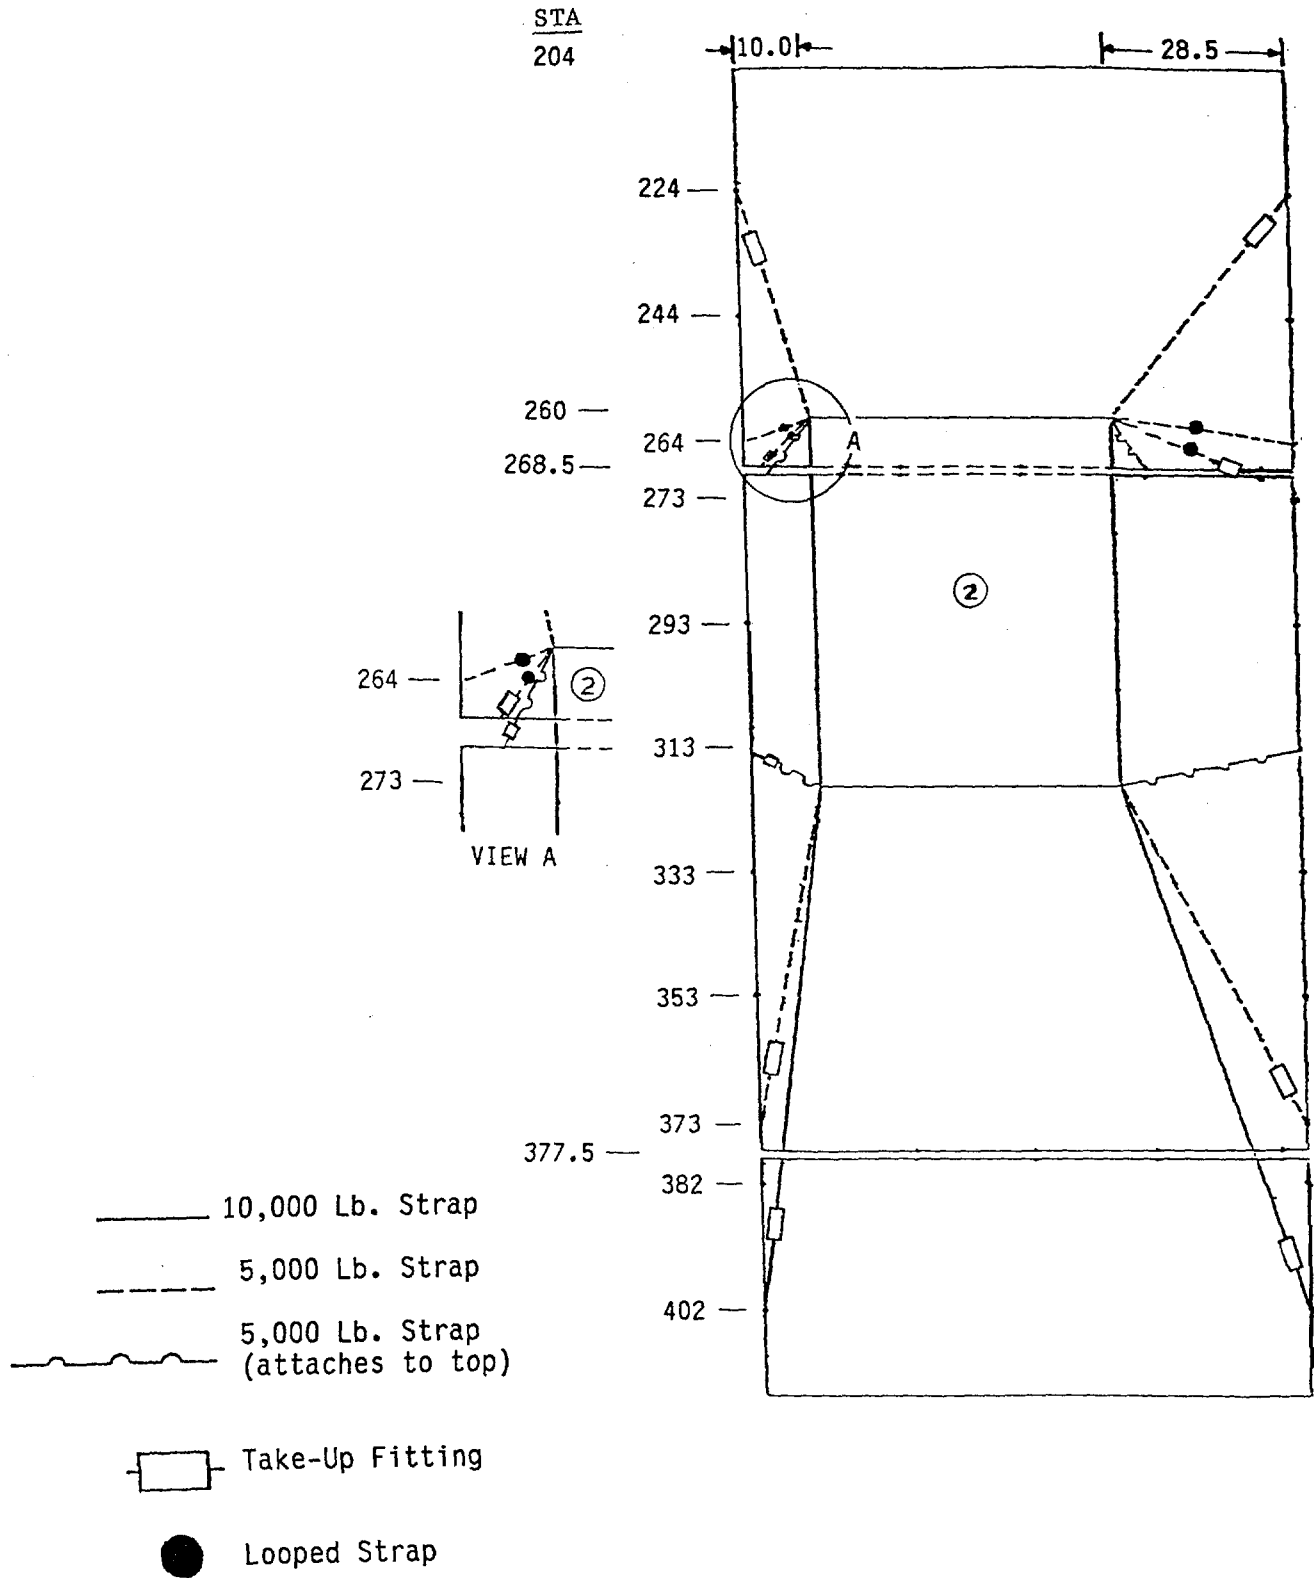

Figure 2-14. Two Tanks of Four with Pallets
- Two tanks of four w/pallets, Fig 2-14